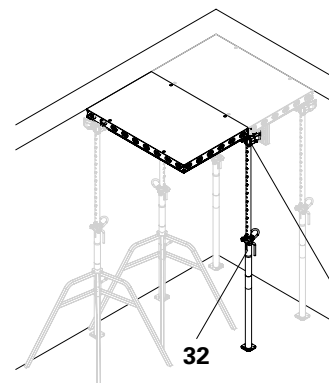

Fig. D2.07
3. Before compensating, hook the DFH prophead (32) of the last prop into the DP panel (10) using two teeth. Two teeth remain unused for the time being. (Fig. D2.07 + D2.7a)